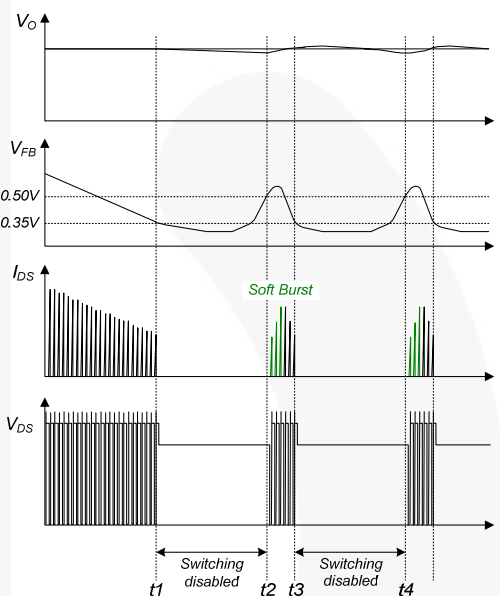

Figure 23. Burst Mode Operation
5. Soft Burst-Mode Operation: To minimize power dissipation in Standby Mode, the FSL146MRBN enters Burst-Mode operation. As the load decreases, the feedback voltage decreases. As shown in Figure 23, the device automatically enters Burst Mode when the feedback voltage drops below V_{BURL} (350mV). At this point, switching stops and the output voltages start to drop at a rate dependent on the standby current load. This causes the feedback voltage to rise. Once it passes V_{BURH} (500mV), switching resumes. The feedback voltage then falls and the process repeats. Burst Mode alternately enables and disables switching of the SenseFET, thereby reducing switching loss in Standby Mode.